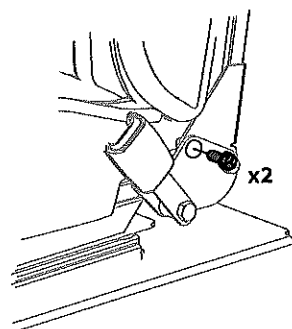

Figure 11
4. Secure with two screws (one right side, one left side) removed in Step 2. See Figure 11.